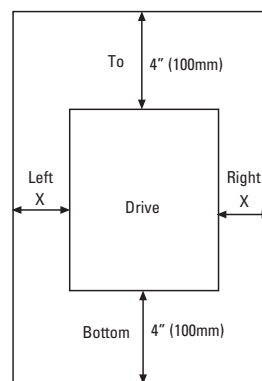

Fig. 2-2-1 30 HP or less: Gap X can be 0. (side-by-side installation) 40HP or more: Gap X >= 2.0" (50mm)
- Securely fasten the drive in an upright position on a solid structure with the tag 6600 facing the front. Do not turn the product upside down or install in a horizontal position. Fig. 2-2-1
- Since heat is generated during drive operation, the spaces shown in Fig. 2-2-1 are required to ensure sufficient cooling. Do not install the drive beneath a device sensitive to heat as heat radiates upward.